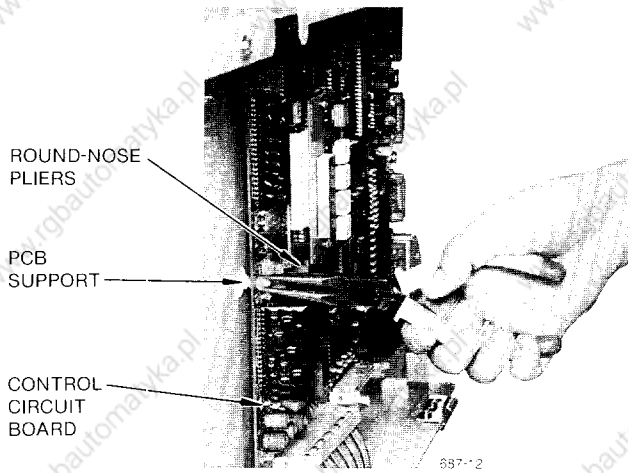

Fig. 13.2 Holding Head of PCB Support with Round-nose Pliers
3. Hold each head of the PCB supports with round-nose pliers and remove the supports from the guide holes in the PCB (Fig. 13.2).